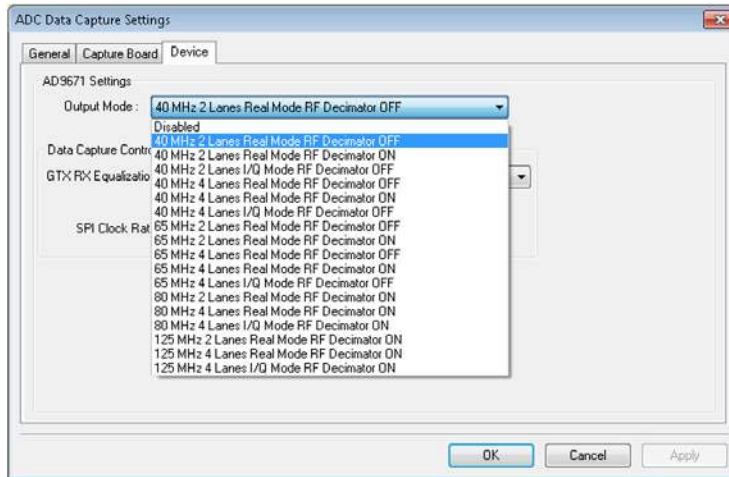

Figure 7. Output Mode Selection Section
6. Select the correct output mode from the **Device** tab in the **ADC Data Capture Settings** window shown in Figure 7.